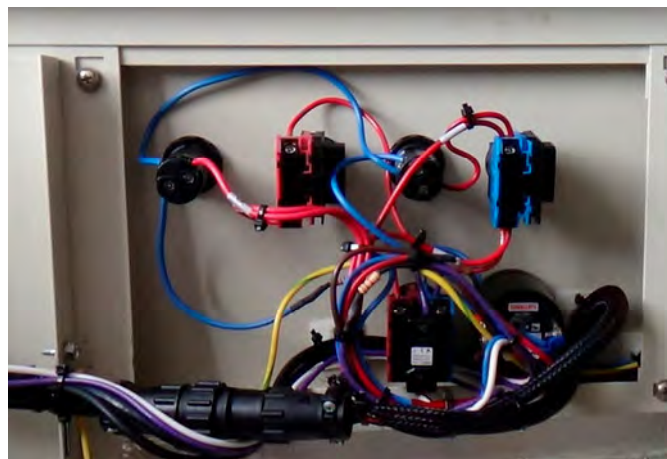

Figure 3-5 Control console (underside)
**Control console** – Main human interface for controlling power to the furnace. On top of furnace near entrance (Figure 3-5).